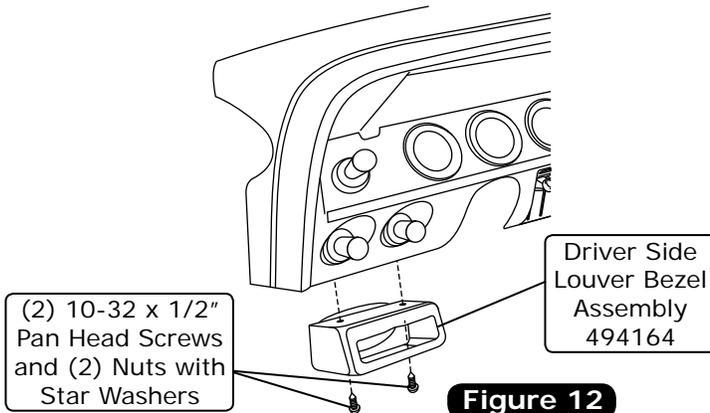

Figure 12
2. Secure the louver bezel under the dash using (2) 10-32 x 1/2" pan head screws and (2) 10-32 nuts with star washers (See Figure 12, below).